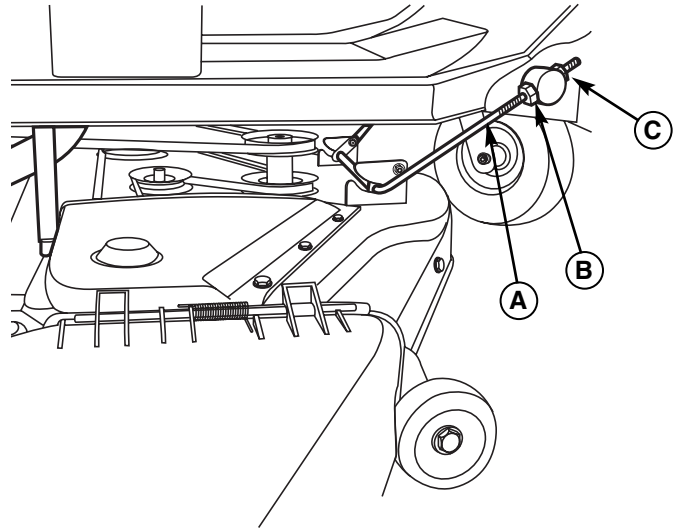

**Figure 53. Orient Blades Front-to-Back**
1. Turn the blades front-to-back as shown in Figure 53. Measure the distance from the ground to front tip of center blade, and from ground to rear tips of left hand and right hand blades (Figure 53). Front tips should be 1/8"-1/4" (3-6 mm) higher than rear tips. If not, proceed to step 2.